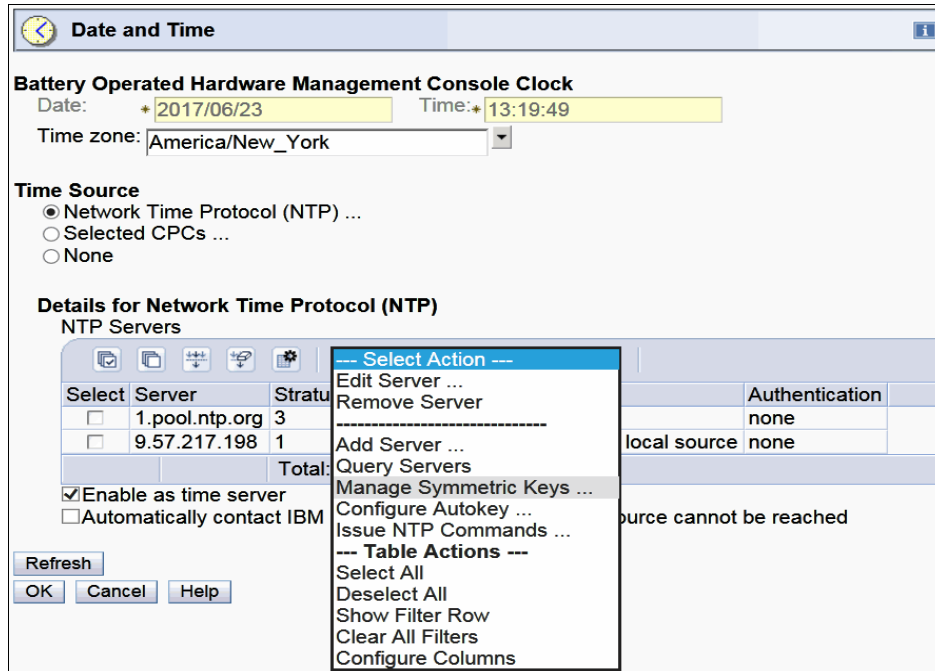

Figure 8-12 Selecting the Manage Symmetric Keys option
2. Click **Select Action** → **Manage Symmetric keys** in the Details for Network Time Protocol (NTP) section, as shown in Figure 8-12.
12. You are returned to the Date and Time window (see Figure 8-12 on page 168). Ensure that the key that you selected is displayed in the Authentication column, the Status is Success, and the key that you specified is displayed.